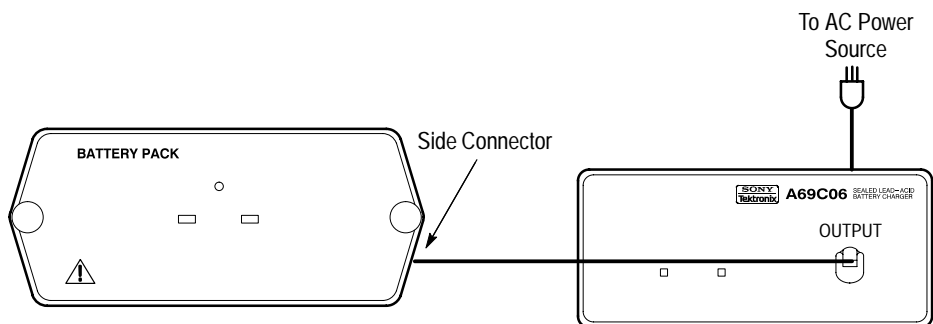

Figure 2: Battery Charging
4. Connect the cable from the A69C06 **OUTPUT** to the connector on the right side of the battery pack, as shown in Figure 2.